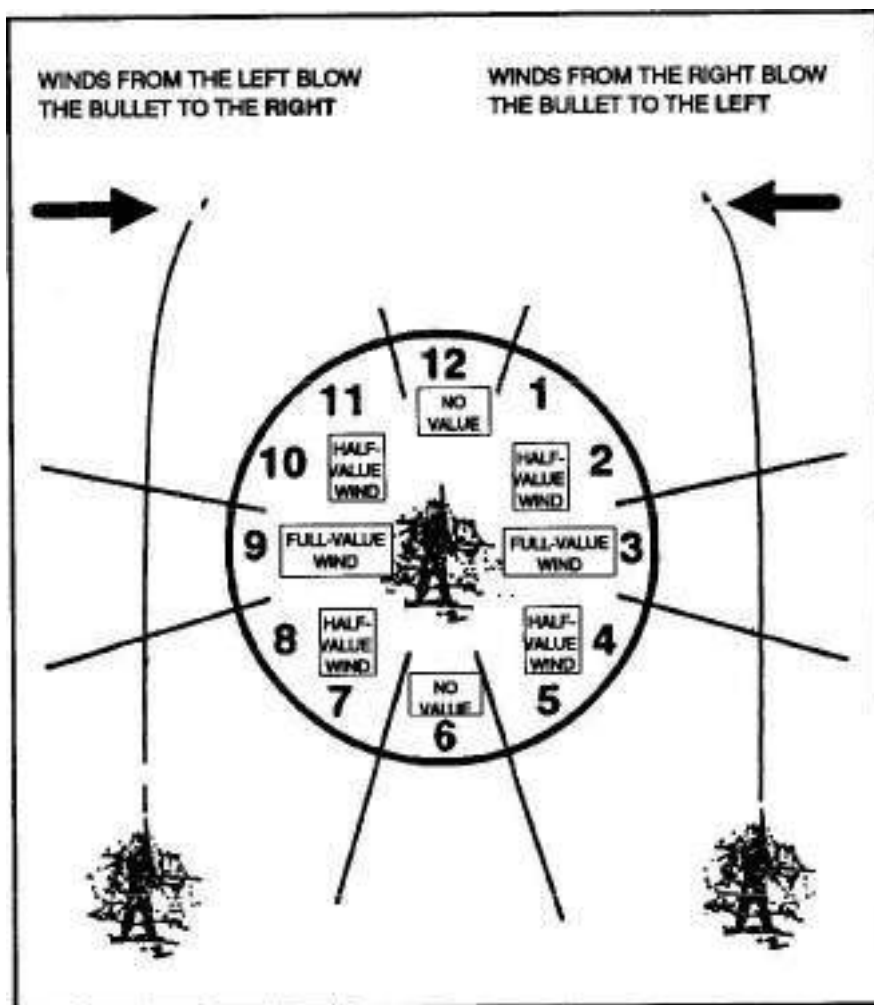

Figure 3-19. Clock system.
(3) Humidity. Humidity varies along with the altitude and temperature. Figure 3-19 considers the changes in altitudes. Problems can occur if extreme humidity changes exist in the area of operations. That is, when humidity goes up, impact goes down; when humidity goes down, impact goes up. Since impact is affected by humidity, a 20 percent change in humidity equals about one minute as a rule of thumb. Keeping a good sniper data book during training and acquiring experience are the best teachers.
(4) Efficiency of the bullet. This is called a bullet's ballistic coefficient. The imaginary perfect bullet is rated as being 1.00. Match bullets range from .500 to about .600. The 7.62-mm special ball (M118) is rated at .530 (Table 3-2).
(5) Wind. Most practice firing conducted by the sniper team involves the use of military range facilities, which are relatively flat. However, as a sniper being deployed to other regions of the world, the chance exists for operating in a mountainous or urban environment. This requires target engagements at higher and lower elevations. Unless the sniper takes corrective action, bullet impact will be above the point of aim. How high the bullet hits is determined by the range and angle to the target (Table 3-3). The amount of elevation change applied to the telescope of the rifle for angle firing is known as slope dope.
b. Since the sniper must know how much effect the wind will have on the bullet, he must be able to classify the wind. The best method is to use the clock system (Figure 3-19). With the sniper at the center of the clock and the target at 12 o'clock, the wind is assigned three values: full, half, and no value. Full value means that the force of the wind will have a full effect on the flight of the bullet. These winds come from 3 and 9 o'clock. Half value means that a wind at the same speed, but from 1,2,4,5,7,8, 10, and 11 o'clock, will move the bullet only half as much as a full-value wind. No value means that a wind from 6 or 12 o'clock will have little or no effect on the flight of